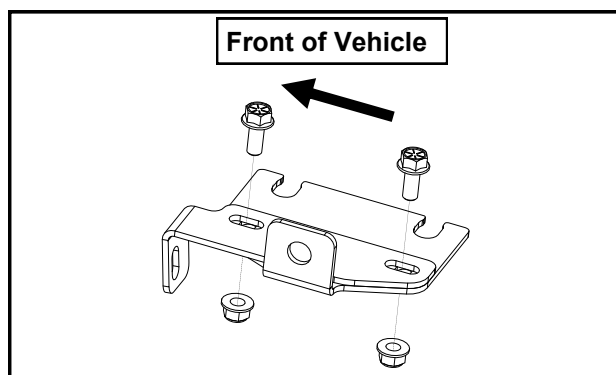

Fig. 4.1 (Rear Mount to Rear Mount Bracket Fasteners)
- 4.1 Loosely fasten the rear mount to the left side rear mount bracket as shown in Figure 4.1.